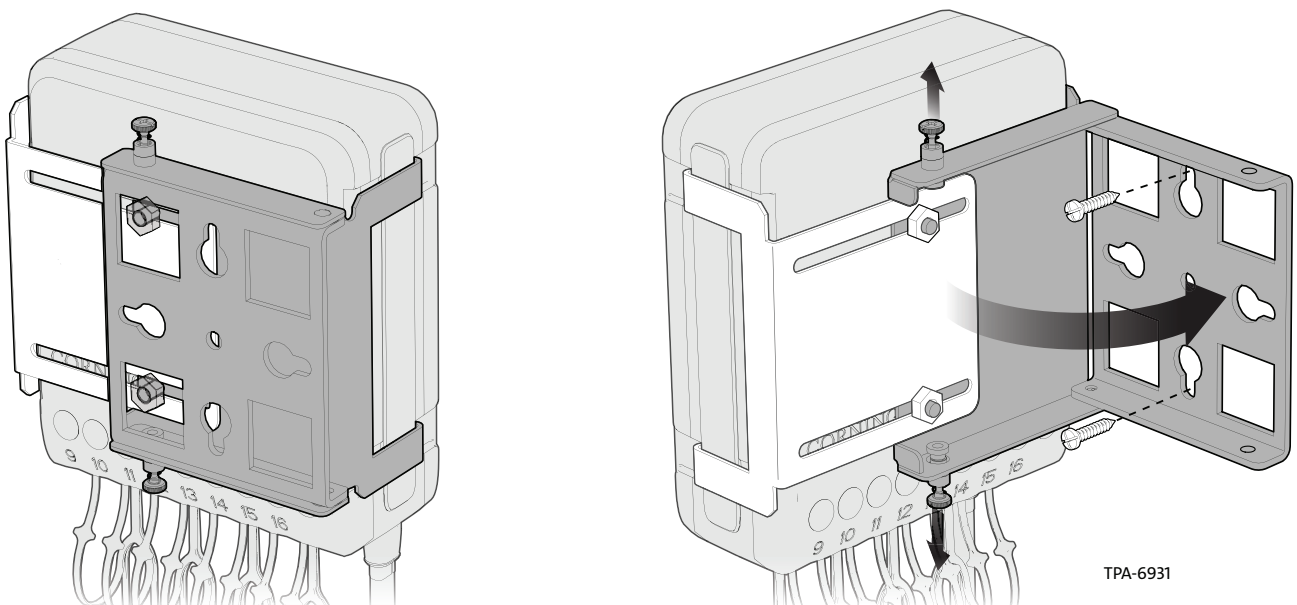

Figure 11
Step 2: Secure the halves together using the supplied 10/32 nuts. Secure the bracket to the pole or wall with two screws in the top and bottom slotted holes (Figure 11).